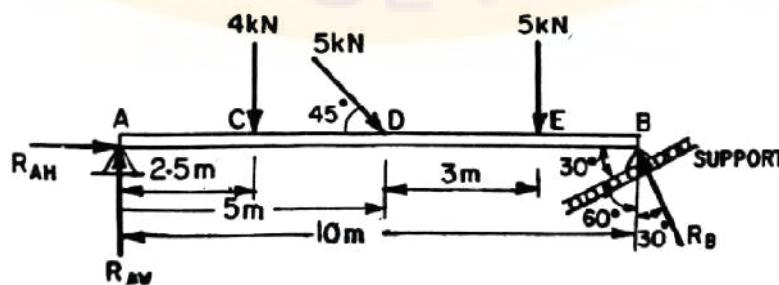

Figure 6
- (b) A beam AB 10m long is hinged at A and supported on rollers over a smooth surface inclined at  $30^0$  to the horizontal at B. The beam is loaded as shown in Figure 6. Determine the reactions at A and B. (7 Marks)